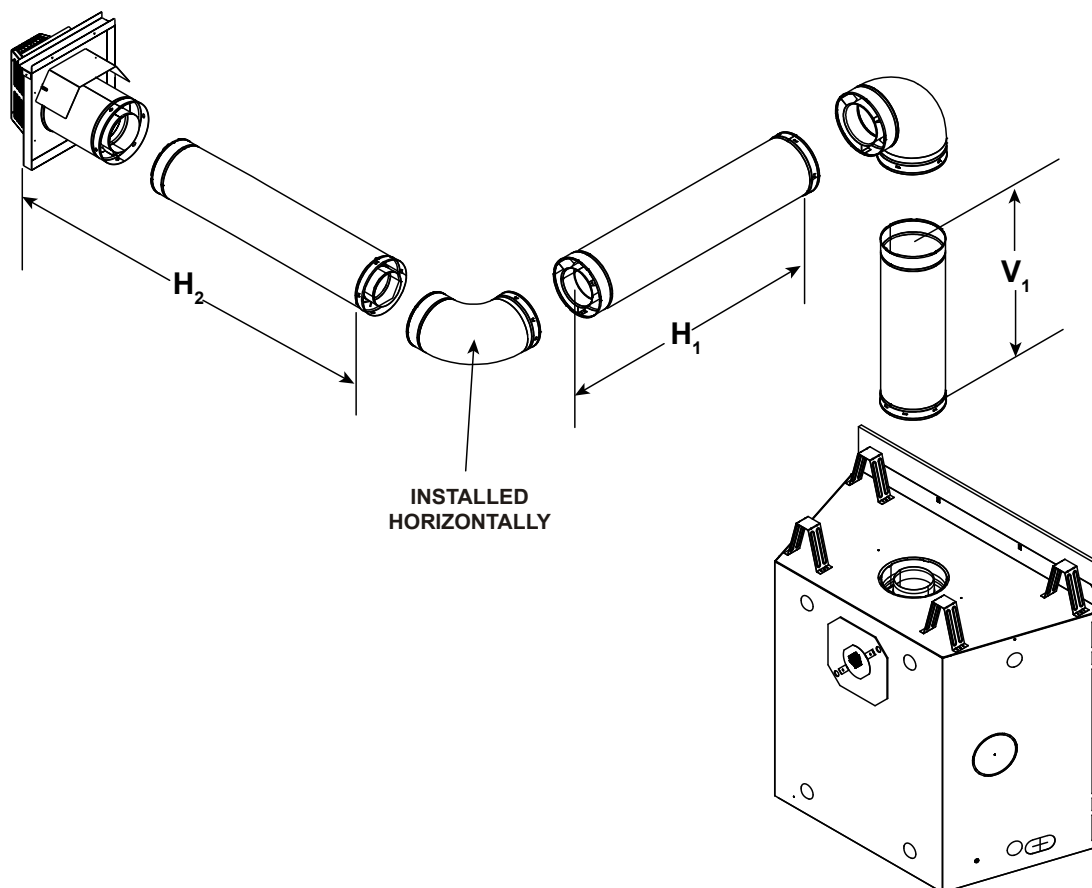

Figure 4.10
- A maximum of three 90° elbows (or six 45° elbows) may be used in any vent configuration. Some elbows may be installed horizontally. For example, see Figure 4.10.